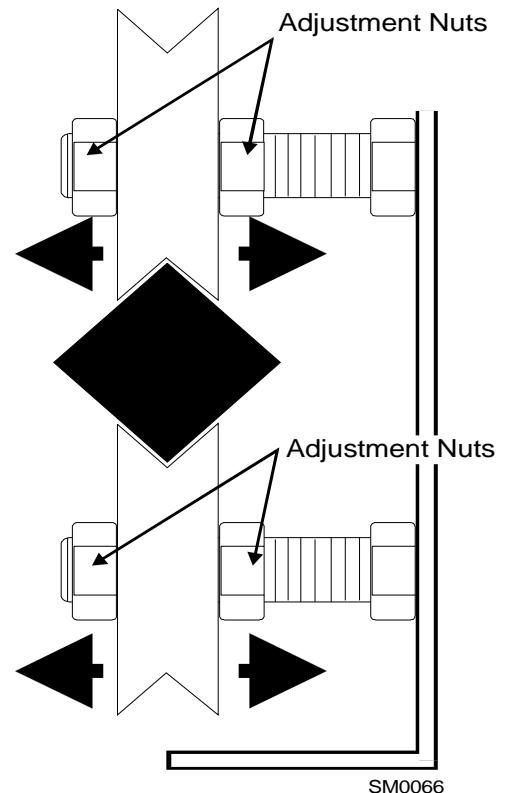

FIG. 5-10
3. If adjustment is needed, the guide rollers can be adjusted in or out on the threaded mounts to open or close the gap. See Figure 5-10.